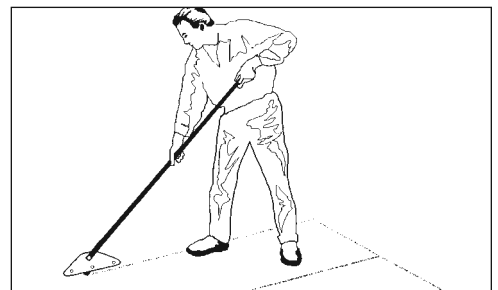

FIG. 6
- Sheet vinyl, solid vinyl, rubber tile, urethane, or PVC sheet roofing will need to be scored for best removal results (Figure 6). Score flooring to the width of the blade.